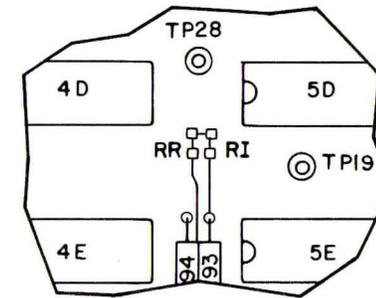

FIGURE 3-18. RADIAL TRACES
1. Cut away the trace at RI located near 5D and 4D. See Figure 3-18.
1. Cut away trace RR located near 4D and 5D. See Figure 3-18.